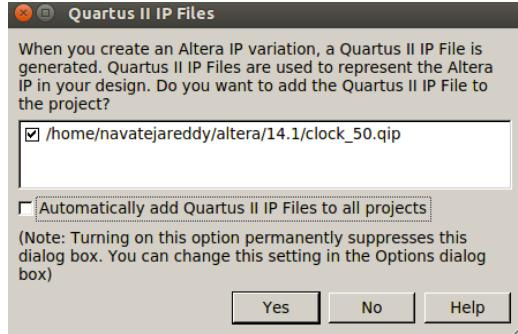

fig 3.1.12
29. Dialogue box appears saying whether to add or not Altera IP variation files, choose Yes. See fig 3.1.12